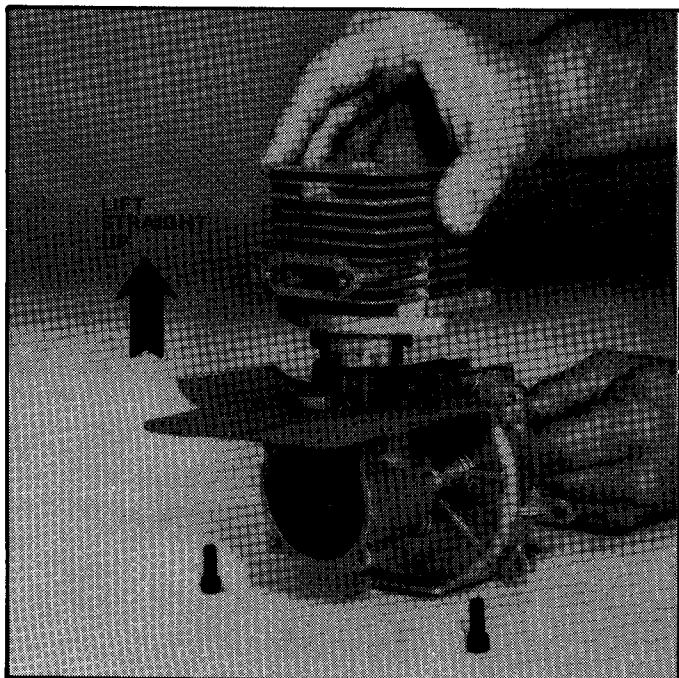

FIGURE 9.5
9.5 Remove the two screws from the crank case housing and separate the crank case assembly from the cylinder block by pulling in a straight line direction. Avoid a twisting motion; this could cause the ends of the piston ring to scar the cylinder wall. For re-assembly tighten the crank case to cylinder screws to 120 inch pounds torque. See Figure 9.5.